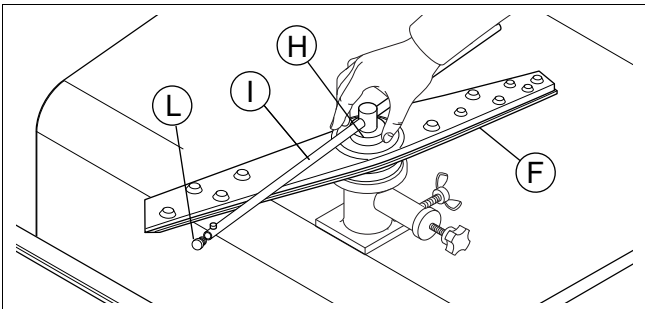

Figure 26 Rotating wash arms and rinse arms
- Remove the upper and lower wash arms "F" and rinse arms "I", undoing the ring nut "H" (Figure 26).
- Unscrew plugs "L" (Figure 26) from the rinse jets.